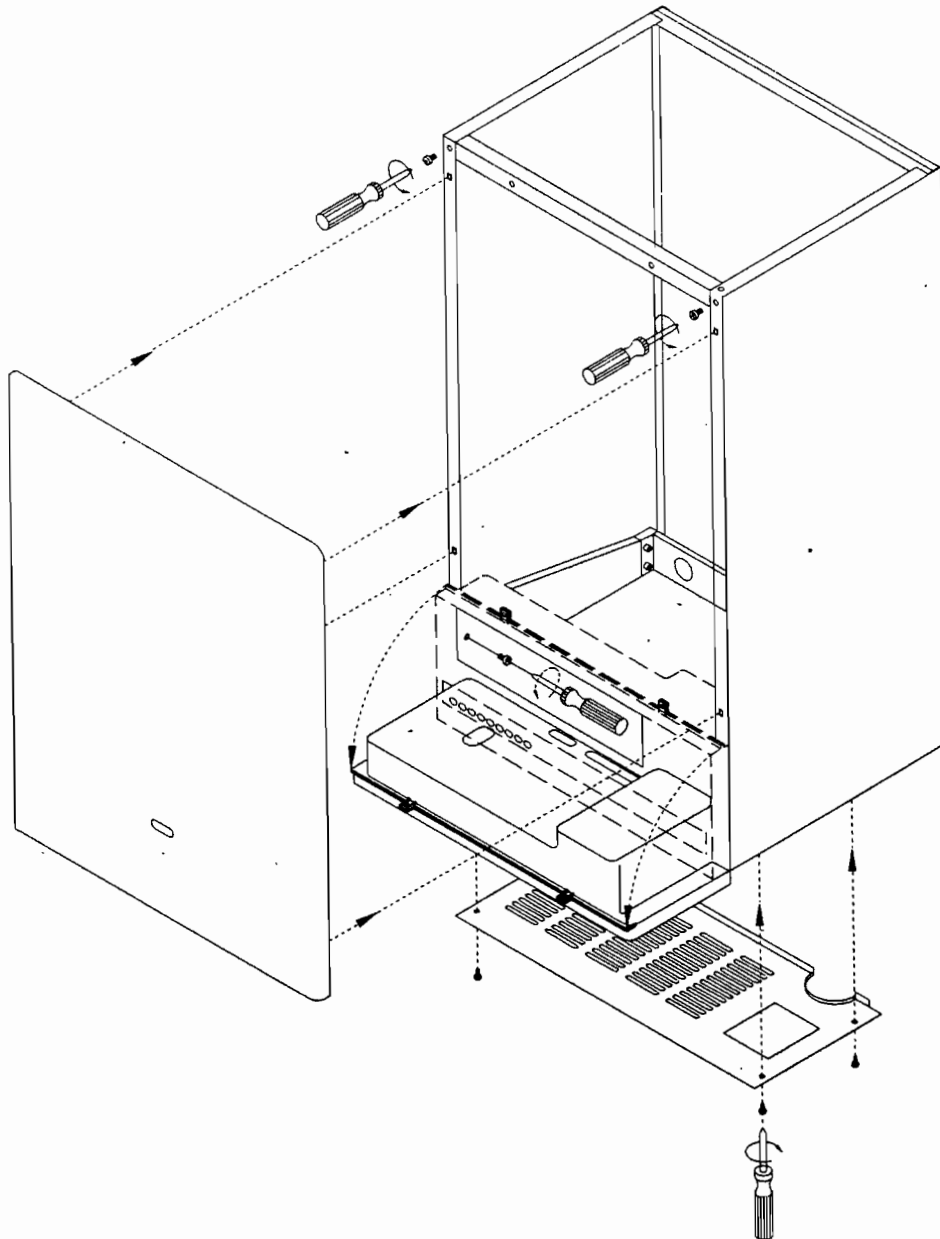

Fig. 1
N.B.: IN CASE OF REMOTE CONTROL INSTALLATION, FOR A CORRECT OPERATION REMOVE LINK BETWEEN TERMINALS TA-OR ON TERMINAL BLOCK AND SET SUMMER-WINTER SWITCH I OF CONTROL PANEL (SEE FIG. 1 PAG. 11) ON SUMMER POSITION ✱. CHECK THE POSITION OF M10 BEFORE INSERTING IT.
SWITCH 1 OF CONTROL PANEL (SEE FIG. 1 PAG. 11)